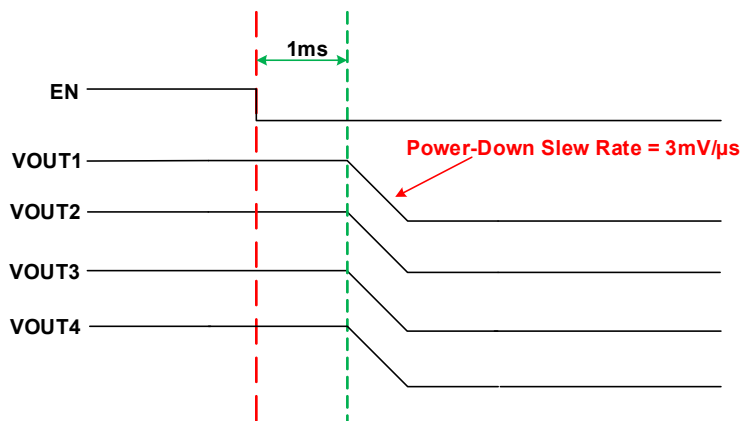

Figure 37. Auto Chip Power-Down Example
Figure 37 provides an example of power-down configurability. The master chip enable pin (EN) transitions from logic 1 to 0. In the Figure 37 example, BUCK1_SHUTDN_DLY is set for 1ms, BUCK2_SHUTDN_DLY is set for 1ms, BUCK3_SHUTDN_DLY is set for 1ms, and BUCK4_SHUTDN_DLY is set for 1ms.